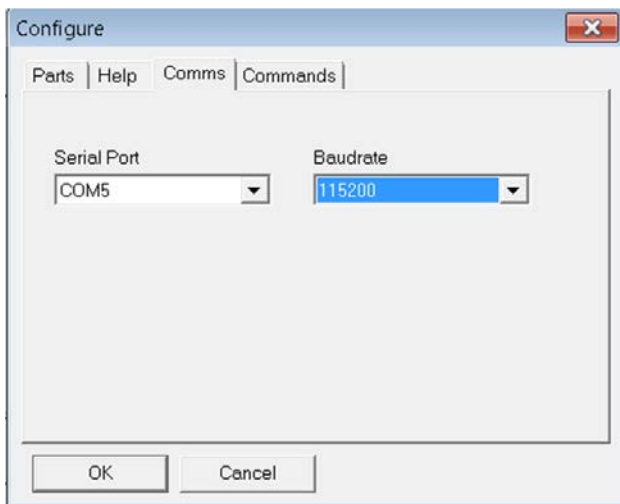

Figure 4. Selecting the Correct COM Port for the Downloader
4. Click **Configure** to display the configuration box (see Figure 4).
- a. Select the correct port from the **Serial Port** menu on the **Comms** tab (see Figure 4).
- b. If the .hex file does not download correctly, lower the baud rate (see the **Baudrate** dropdown box in Figure 4) and retry.